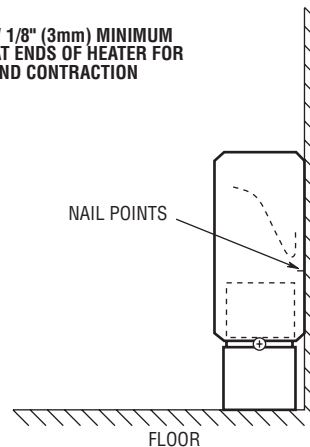

Figure 2. Installation of Heater
1. Position the heater at the desired location on the wall as shown in Figure 2. For maximum heating comfort, position the heater under a window.